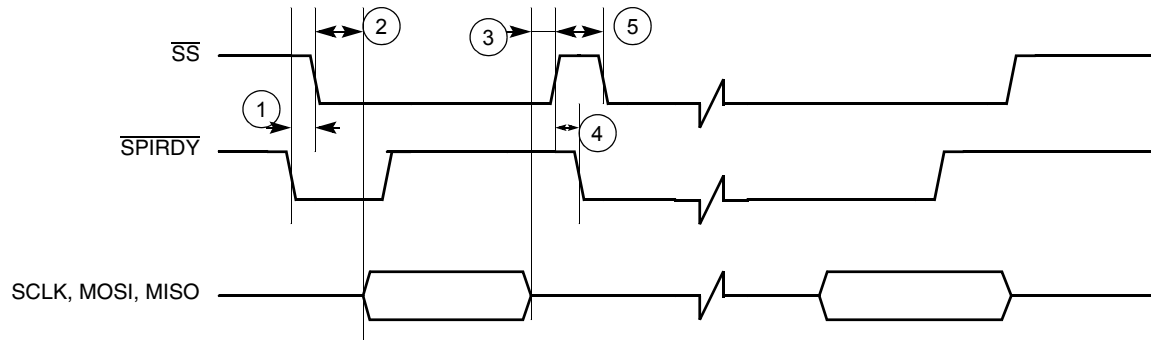
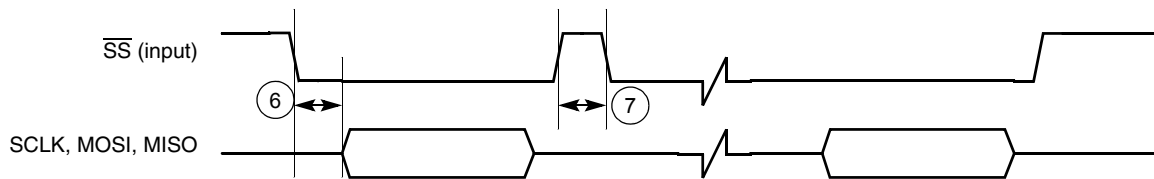

Figure 36. Master SPI Timing Diagram Using $\overline{SPI_RDY}$ Edge Trigger
Figure 40. Slave SPI Timing Diagram FIFO Advanced by \overline{SS} Rising Edge
To utilize the internal transmit (TX) and receive (RX) data FIFOs when the SPI 1 module is configured as a master, two control signals are used for data transfer rate control: the \overline{SS} signal (output) and the $\overline{SPI_RDY}$ signal (input). The SPI 1 Sample Period Control Register (PERIODREG1) and the SPI 2 Sample Period Control Register (PERIODREG2) can also be programmed to a fixed data transfer rate for either SPI 1 or SPI 2. When the SPI 1 module is configured as a slave, the user can configure the SPI 1 Control Register (CONTROLREG1) to match the external SPI master's timing. In this configuration, \overline{SS} becomes an input signal, and is used to latch data into or load data out to the internal data shift registers, as well as to increment the data FIFO. Figure 36 through Figure 40 show the timing relationship of the master SPI using different triggering mechanisms.
Table 13. Timing Parameter Table for Figure 36 through Figure 40